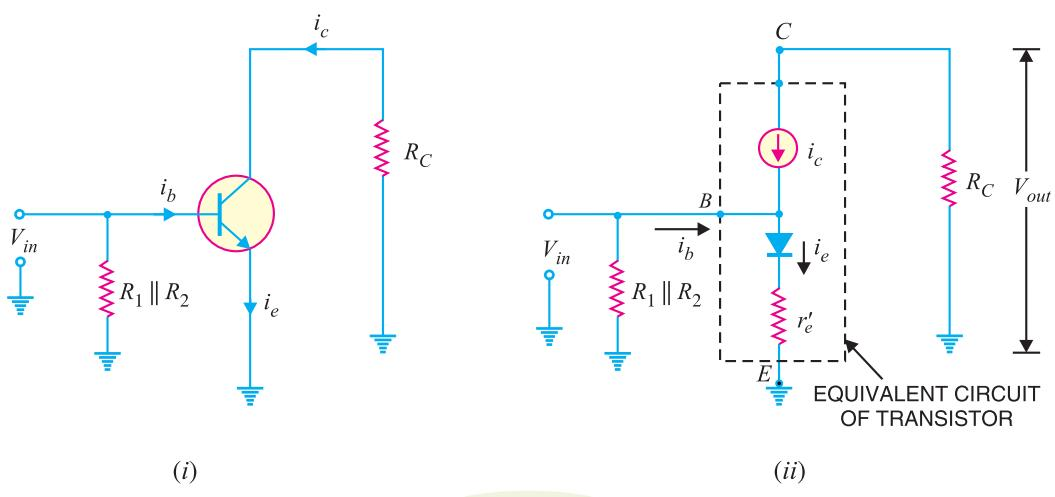
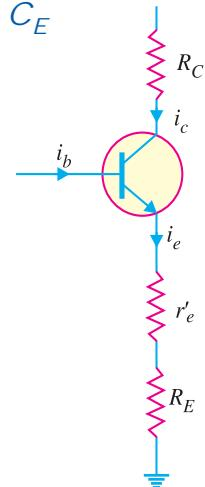

**Fig. 10.25**
Fig. 10.29
The above formula for  $A_v$  can be used if we know the values of  $R_C$  (or  $R_{AC}$ ),  $\beta$  and  $R_{in}$ . Generally, all these values are not known. In that case, we can find the value of  $A_v$  in terms of **total a.c. collector resistance** and **total a.c. emitter resistance**. For the circuit shown in Fig. 10.25 (with  $C_E$  connected across  $R_E$ ), it can be proved that the voltage gain is given by ;
Fig. 10.25 shows the circuit of unloaded CE amplifier (i.e. no load  $R_L$  is connected to the circuit).
**Derivation.** Fig. 10.25 shows the common emitter amplifier. The ac equivalent circuit of the amplifier is shown in Fig. 10.26. (i). Replacing the transistor by its \*equivalent circuit, we get the circuit shown in Fig. 10.26 (ii). Note that current source is still connected between the collector and base terminals while the diode between the base and emitter terminals. Further, the input current is the base current ( $i_b$ ) while the output current is still  $i_c$ .
When we remove the emitter bypass capacitor from the *CE* amplifier shown in Fig. 10.25, the voltage gain of the circuit is greatly reduced. The reason is simple. Without the emitter bypass capacitor  $C_E$ , the emitter is no longer at the ac ground as shown in Fig. 10.29. Therefore, for the a.c. signal, both  $r'_e$  and  $R_E$  are in series. As a result, the voltage gain of the amplifier becomes :